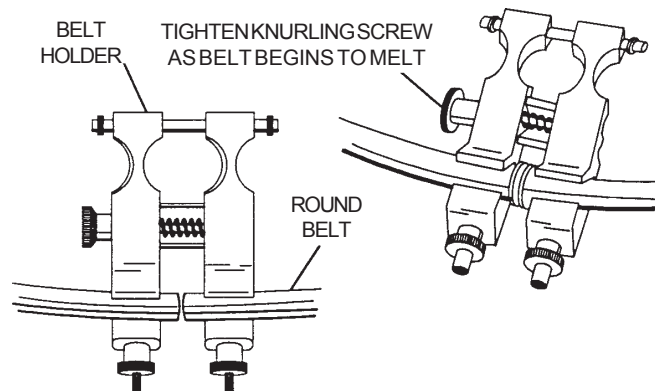

FIGURE 4
4. Install the belt welding device and weld belts. Refer to *Figure 4*.